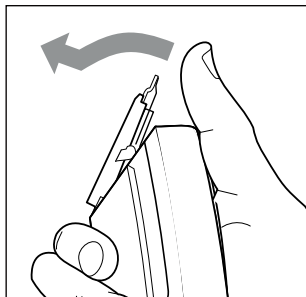
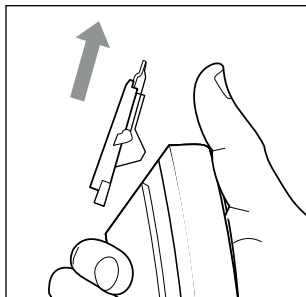

Fig. 8
Fig. 9
- ▶ The cutting blade of the shaving head ❶ can be cleaned with water. Do not use any other liquids.
- 1) First press the shaving head ❶ forwards off the appliance with your thumb (see fig. 8). Then pull the shaving head ❶ upwards out of the appliance (see fig. 9).